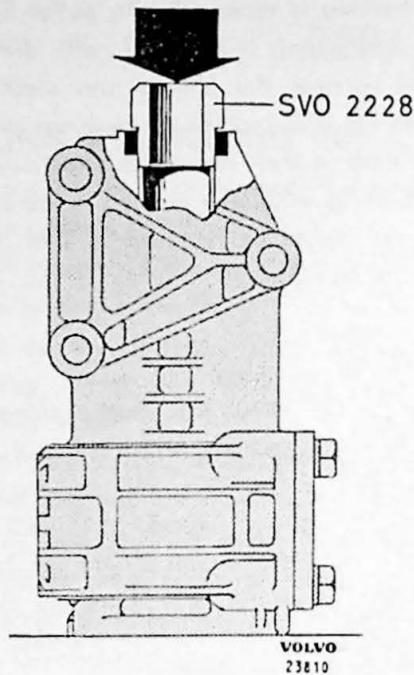
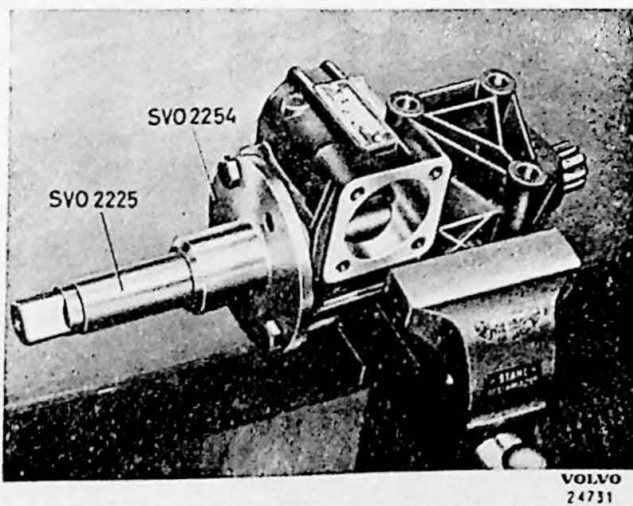

Fig. 6-24. Fitting the pitman arm shaft bushing
Fig. 6-25. Reaming the pitman arm shaft bushings
1. Press in the pitman arm shaft bushings from their respective directions with drift SVO 2228 and standard handle SVO 1801, see Fig. 6-24. Ream the bushings with reamer SVO 2225. Use guide SVO 2254 which is fitted onto the housing with two bolts, see Fig. 6-25. Carefully clean out all metal chippings from the steering box after reaming.